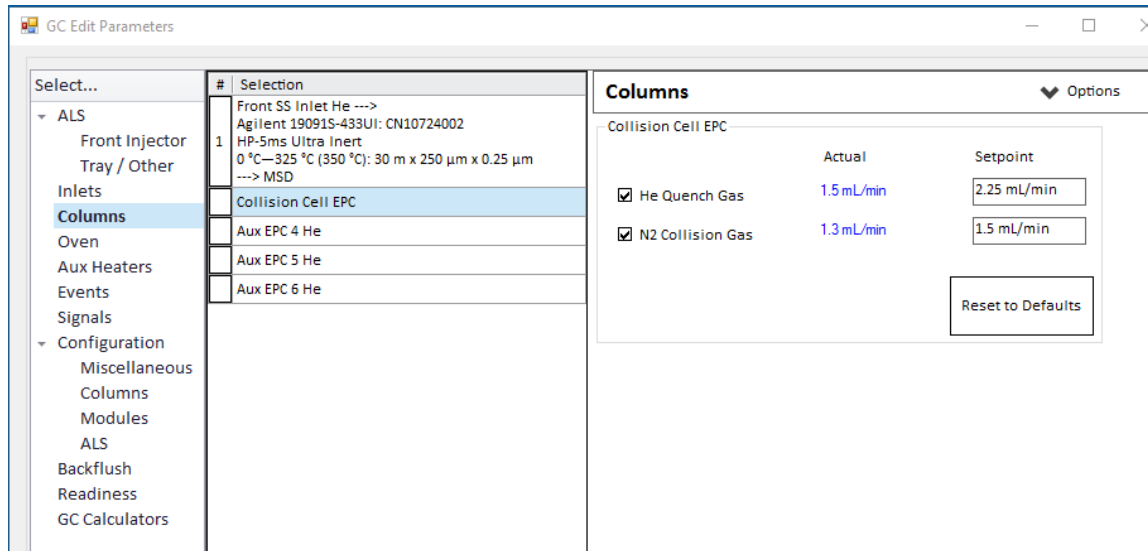

Figure 37. Setting CC gas flow rate
- 2 Click the **Columns** icon to display the control parameter entry screen for column and Aux flow modules. (See **Figure 37** on page 116.)